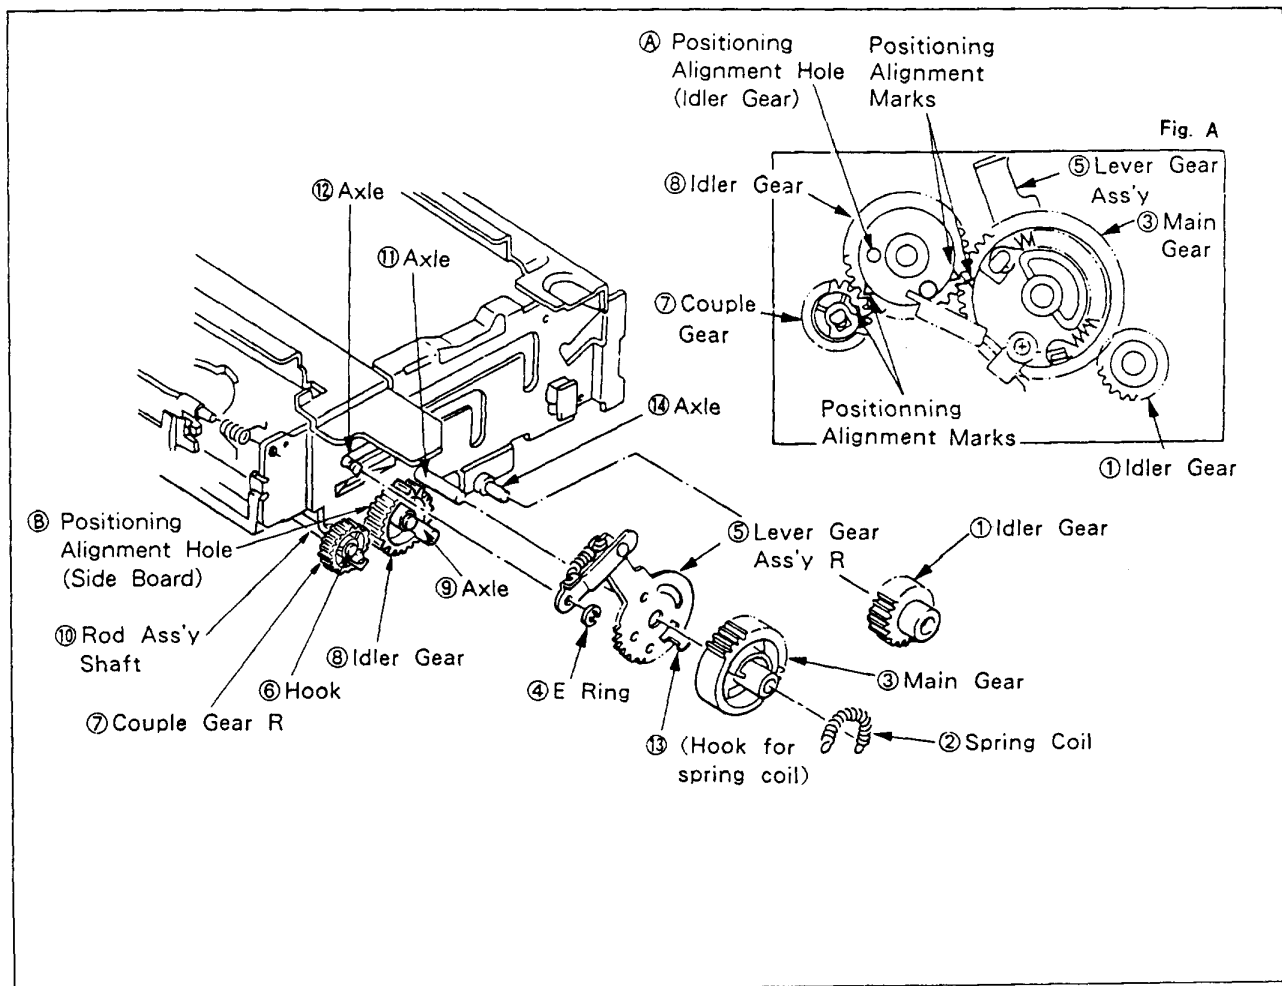

Fig. 5-2-3. Cassette Drive Gears (Right Side)
- 1) Apply grease to the shaft ⑧ and the two pins ⑨ of the GEAR BRACKET ASS'Y.
- 2) Apply grease to the pin ⑩ of the PINION LEVER ASS'Y.
- 3) Apply grease to the toothed part of the RACK ⑦.
- 4) Fit the RACK ⑦ onto the two pins ⑨. Align the positioning alignment hole ⑪ to the positioning alignment hole ⑫ of the GEAR BRACKET.
- 5) Mount the PINION GEAR ⑥, PINION LEVER ASS'Y ⑤, and LOCK GEAR ④ in the shaft ⑧ in the order mentioned.
- Align the positioning alignment holes ⑬ of PINION GEAR and LOCK GEAR with the positioning alignment hole ⑪ of RACK at that time.
- 6) Mount the E ring ③ onto the shaft ⑧.
- 7) Set the GEAR BRACKET ASS'Y ② to the dowel and mount it using three screws ①.
- Align the positioning alignment hole ⑭ of the IDLER GEAR with the positioning alignment hole ⑮ of the SIDE BOARD as shown in Fig. 5-2-3 at this time.
**5-2-3. Cassette Drive Gear (Right) (See Fig. 5-2-3.)**